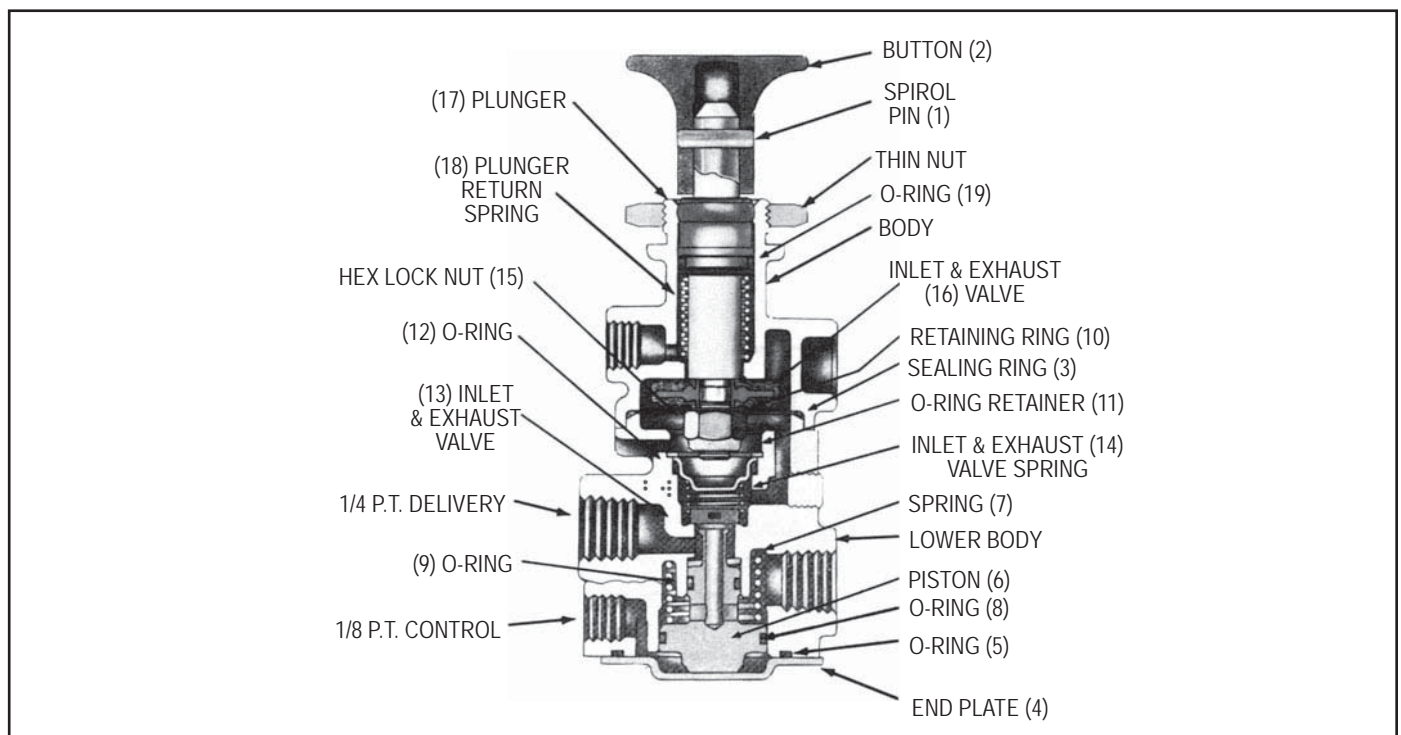

FIGURE 2 - SECTIONAL
3. Using a drift pin punch, remove the spirol pin (1) Fig. 2 which secures the button to the plunger. Remove the button (2).